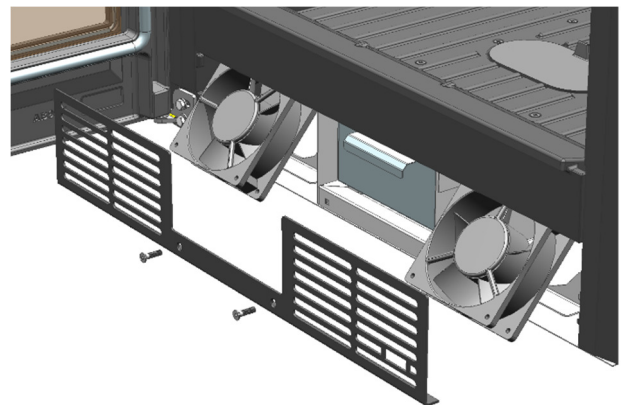

Fig.3
3. Take them out at an angle through the front mouth. (Fig. 3)